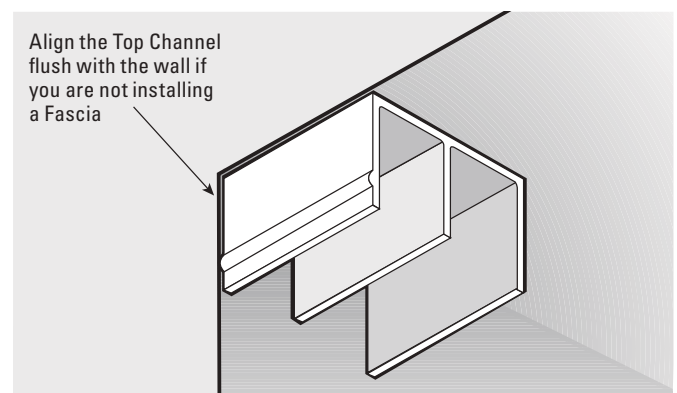

Figure 1
C. When cut to the proper length, align the Top Channel flush to the top front of the closet opening making sure that the front of the Top Channel is flush with the outside walls or jamb boards. Hold the Top Channel in the desired position and with your pencil, mark where the pre-drilled holes are in the Top Channel (See **Figure 1**).